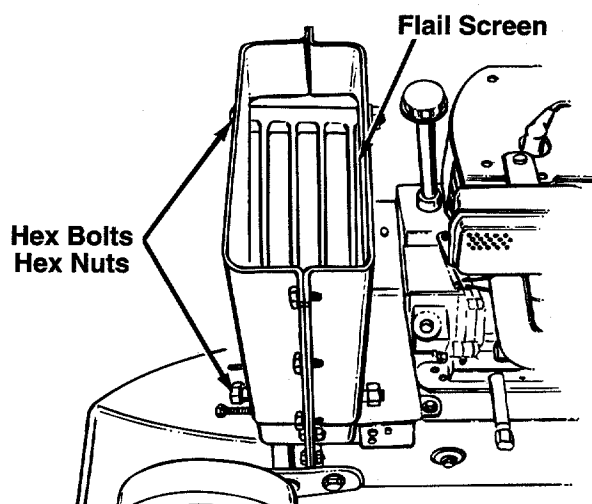

FIGURE 14.
4. Remove the two hex bolts and hex nuts which extend through the housing. Lift the flail screen from inside the housing. See figure 14.
NOTE: Be certain to reassemble the flail screen with the curved side down as shown in figure 14.
1. Remove the plastic belt cover on the front of the engine by removing two self-tapping screws. Refer to figure 14.